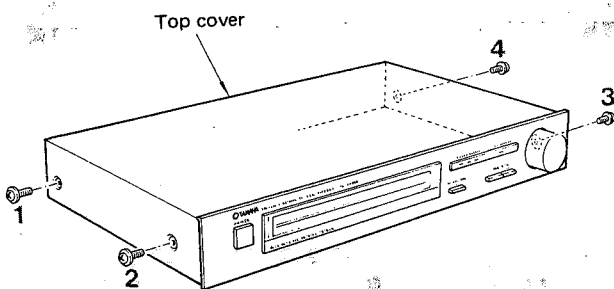

Fig. 1
Remove screws ① through ④ in fig. 1 and remove the top cover.